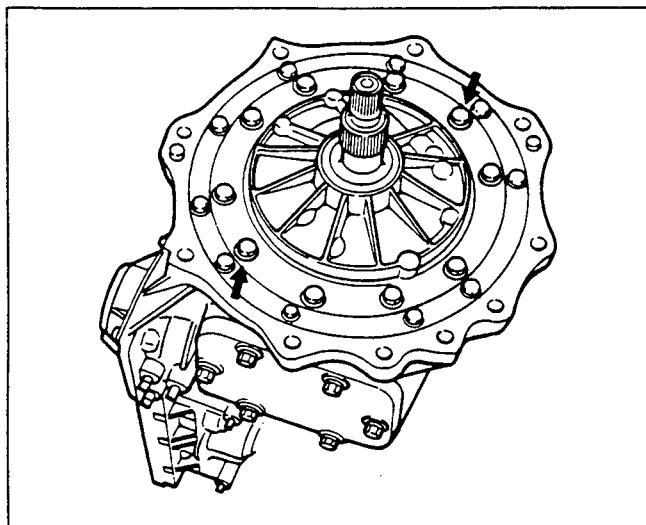

Figure 13. Oil Pump Removal (1)
## Oil Pump (Figures 13, 14 and 15)
1. Remove two of the oil pump housing bolts from the oil pump (figure 13).